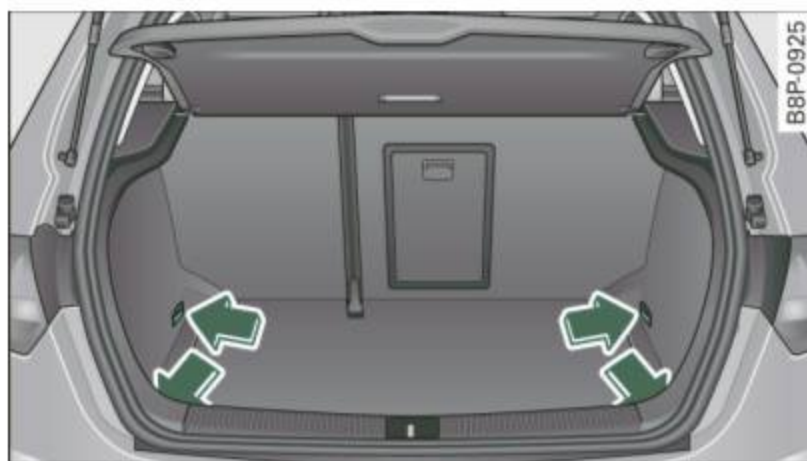

Fig. 104 Luggage compartment: fastening eyes
- Use the fastening eyes to secure your cargo properly ⇒ fig. 104 -arrows-.